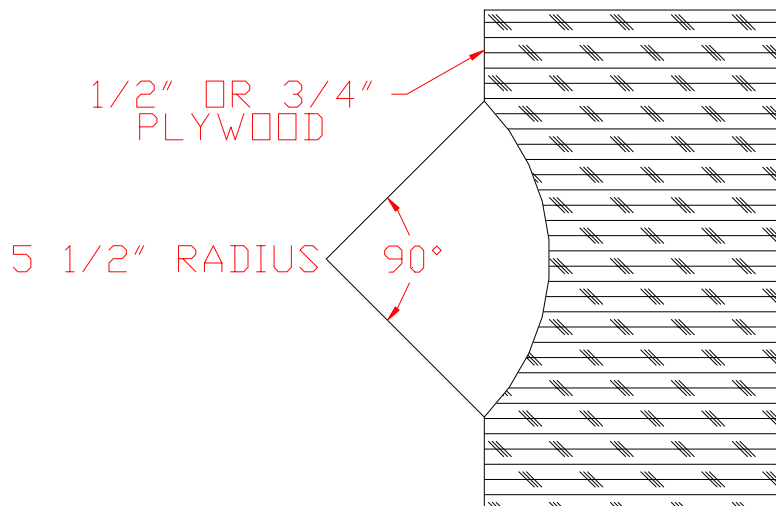

Figure 9.12.7
- 32) Cut a quarter moon on a piece of 1/2" - 3/4" plywood with a radius of 5 1/2". Figure 9.12.7.